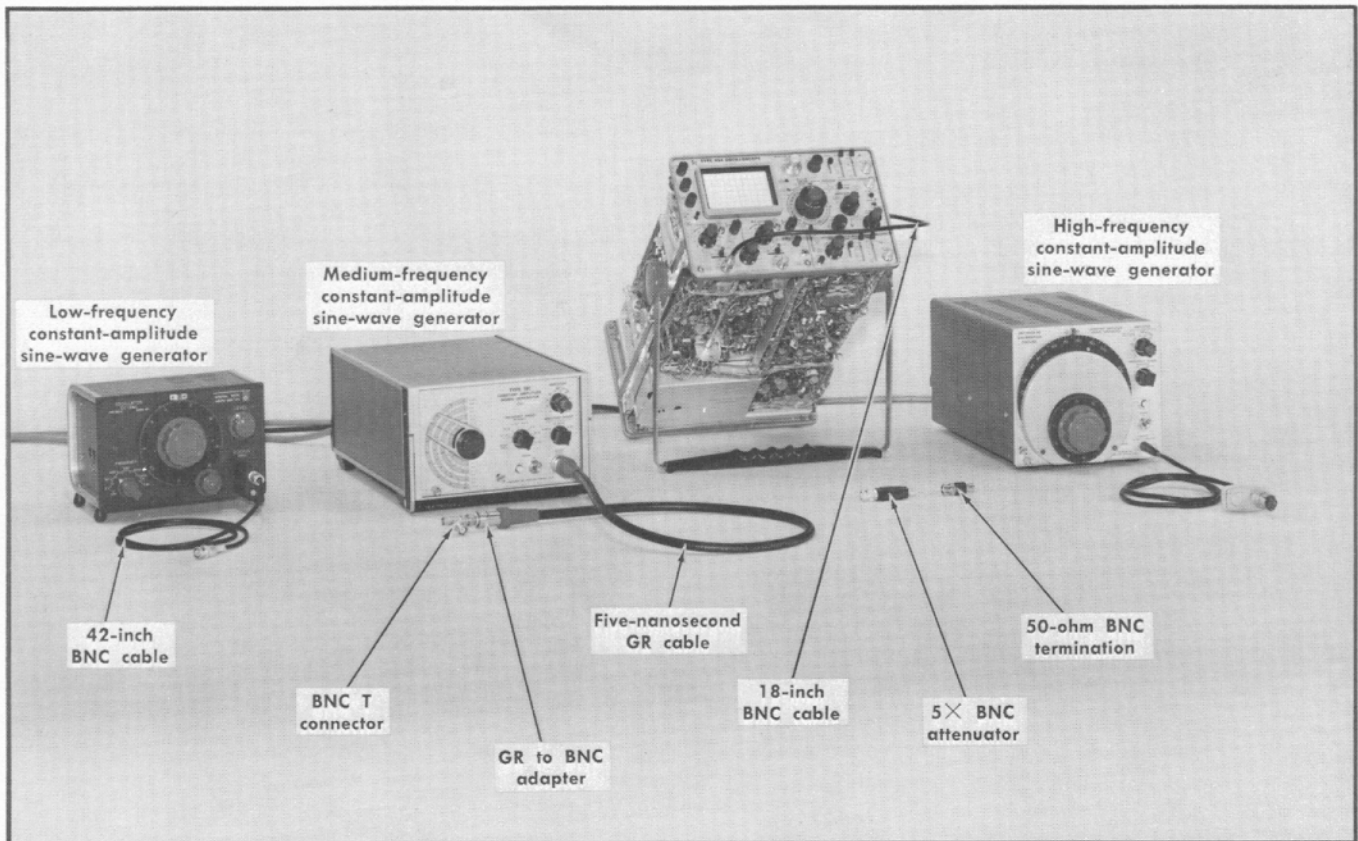

Fig. 6-33. Initial test equipment setup for steps 39 through 50.
- Test equipment setup is shown in Fig. 6-33.